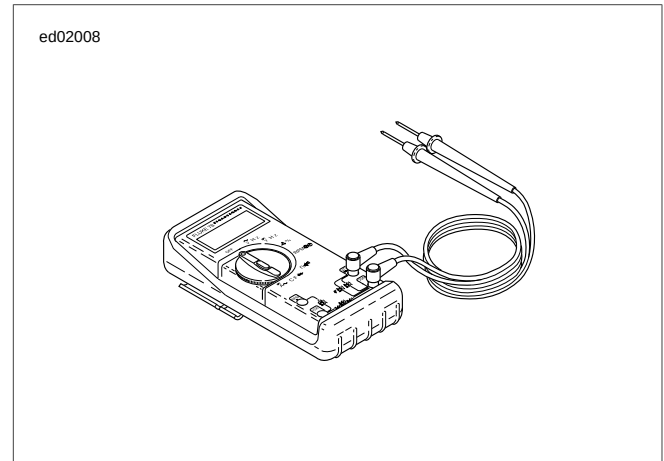

Figure 4-11. Fluke 78 Multimeter (DVOM) (Part No. HD-39978)
1. See Figure 4-11. Connect DVOM (Part No. HD-39978) to wiring harness between the suspect connections. When diagnosing ECM connections, use a BREAKOUT BOX (Part No. HD-48637) to simplify the procedure. See 4.7 BREAKOUT BOX: EFI.